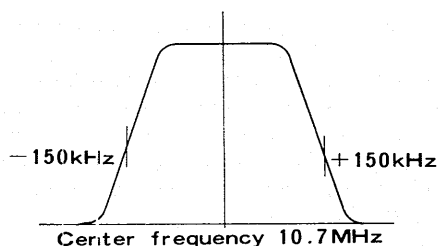

Fig. 3
- Adjust the IFT cores (T9, T10, T11) as shown in Fig. 3, for maximum gain and symmetrical pattern.